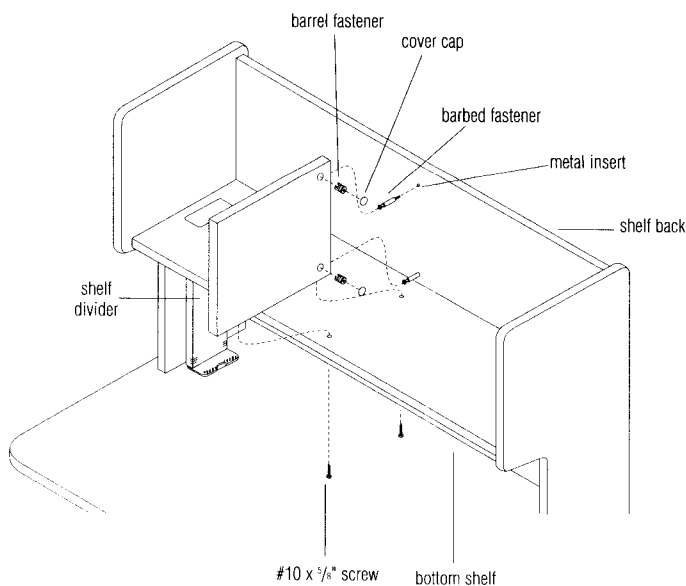

Figure 4
12. Insert two barbed fasteners into metal inserts on the center of the shelf back and two barrel fasteners into the sockets in the shelf divider. Orient the arrows on the barrel fasteners (open position) to point toward the shelf back (Figure 4).
13. Align installed barbed fasteners with the barrel fasteners (arrow pointing toward shelf side for open position) and insert together, joining the shelf divider with shelf back. With a Phillips screwdriver, or $\frac{5}{32}$ " hex wrench (supplied), rotate barrel fasteners clockwise to secure divider to back. Press top caps into barrel fasteners (Figure 4).
14. Align screw holes in the bottom of the shelf divider with the holes in the bottom. Fasten together with two #10 x $\frac{5}{8}$ " screws (Figure 4).